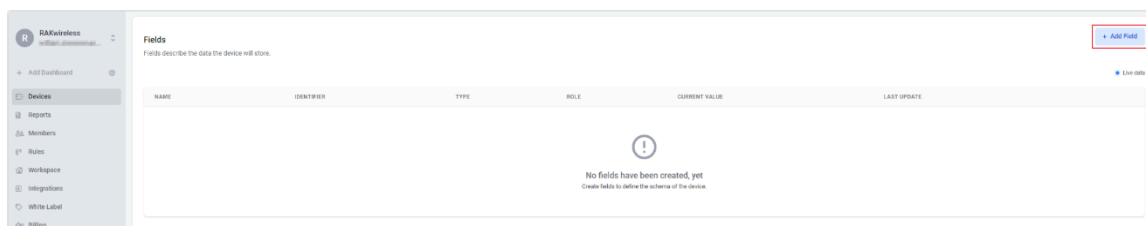

Figure 85: Add field
3. The **Add Field** window appears. Fill out the fields shown in **Figure 85** to configure the stored data in the device.